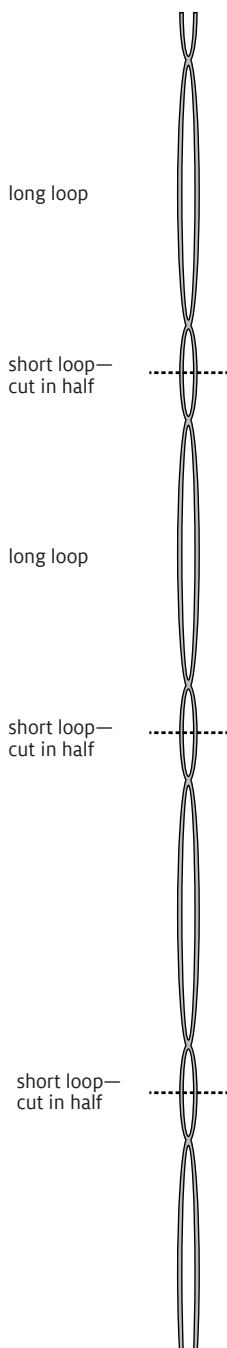

FIGURE 12: CUT HEDDLES
1. Unwind Texsolv heddles from the spool. You'll see long loops alternating with short loops; the long loops are your heddles. Cut every short loop in half crosswise with sharp scissors, as shown by the dotted lines in Figure 12.